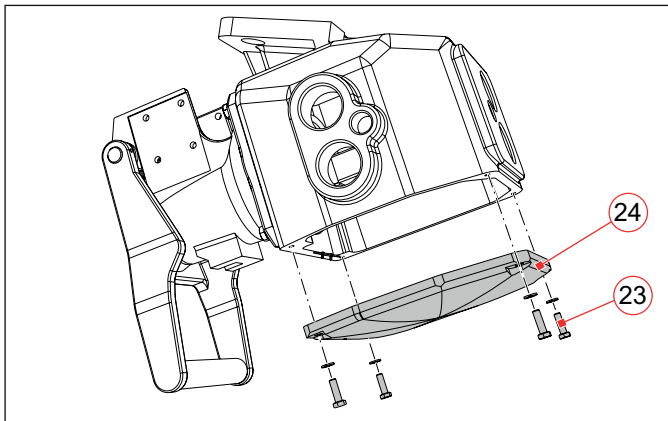

Fig. 8: Remove the lower shell cover of the coupling receptacle
- ▶ For preparing the connections, release the 4 screws (23) of the shell cover (24) on the bottom side of the coupling receptacle (Fig. 8).
- ▶ Remove the lower shell cover (24) together with the glued in seal.
- ▶ After having checked all cable connections for correct laying and secure attachment, mount the shell cover again on the bottom side of the coupling receptacle (see **Fig. 8**).
- ▶ Insert the lower shell cover (24) with glued in seal from below into the receptacle shell (see **Fig. 8**).
- ▶ Screw on the shell cover (24) with the 4 screws (23) including spring lock washers (**Fig. 8**). Torque for the shell cover screws: 6 Nm